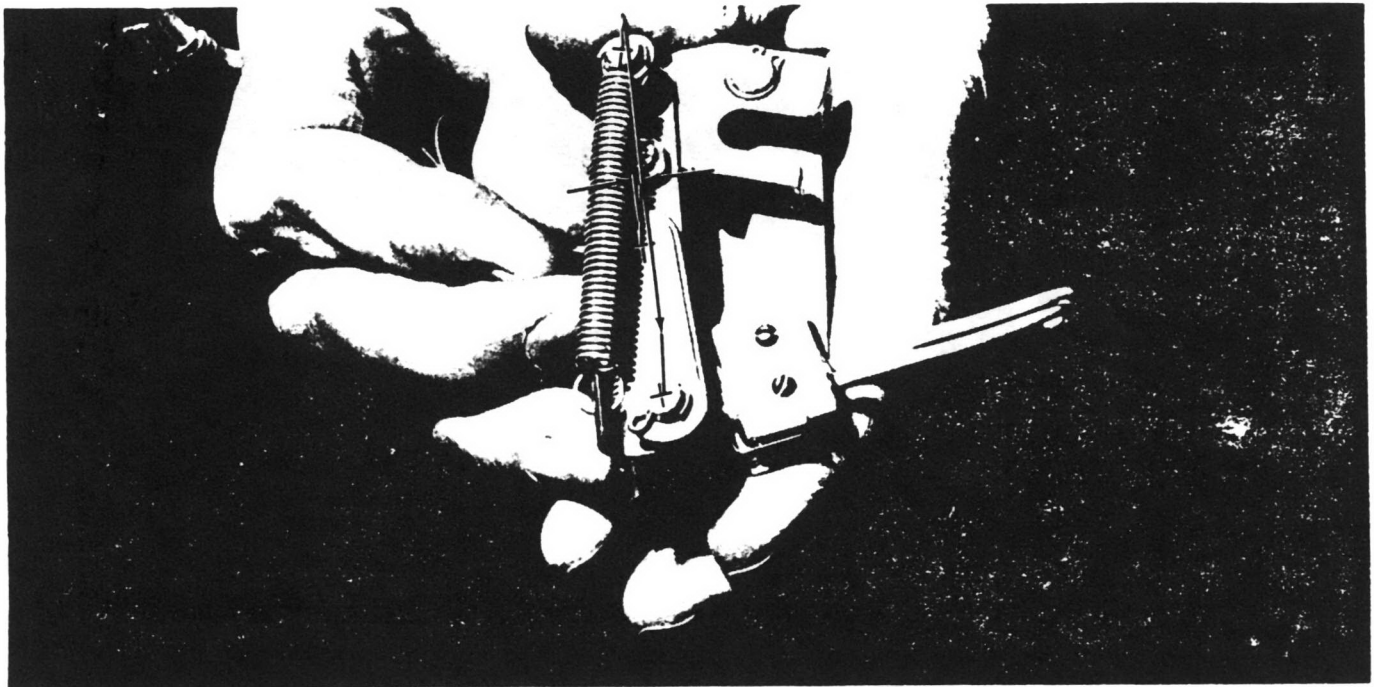

Figure 5-15. Downlock Indicator Switch Adjustment
r. Adjust sequence switches shown in figure 5-15, and fasten attaching screws.